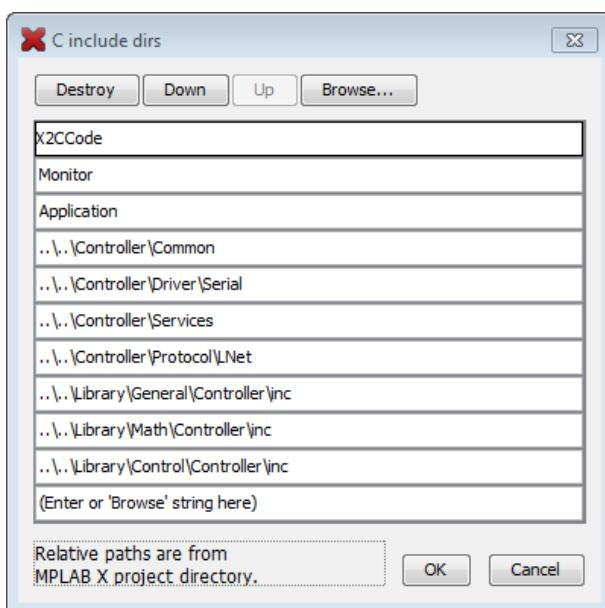

Figure 4: Default path variables for the include files
3. In the case the demo application is copied/moved to a different location, the include paths have to be adapted. To ensure the compiler uses the correct path variables right click on the **Projectname → Properties → XC16 Global Options → xc16-gcc**. In the drop down menu **Option categories** choose **Preprocessing and messages**. Click on the dots beside *C include dirs*. There are relative paths to the needed include files listed as seen in Figure 4. Correct the links by double clicking on the path variables.